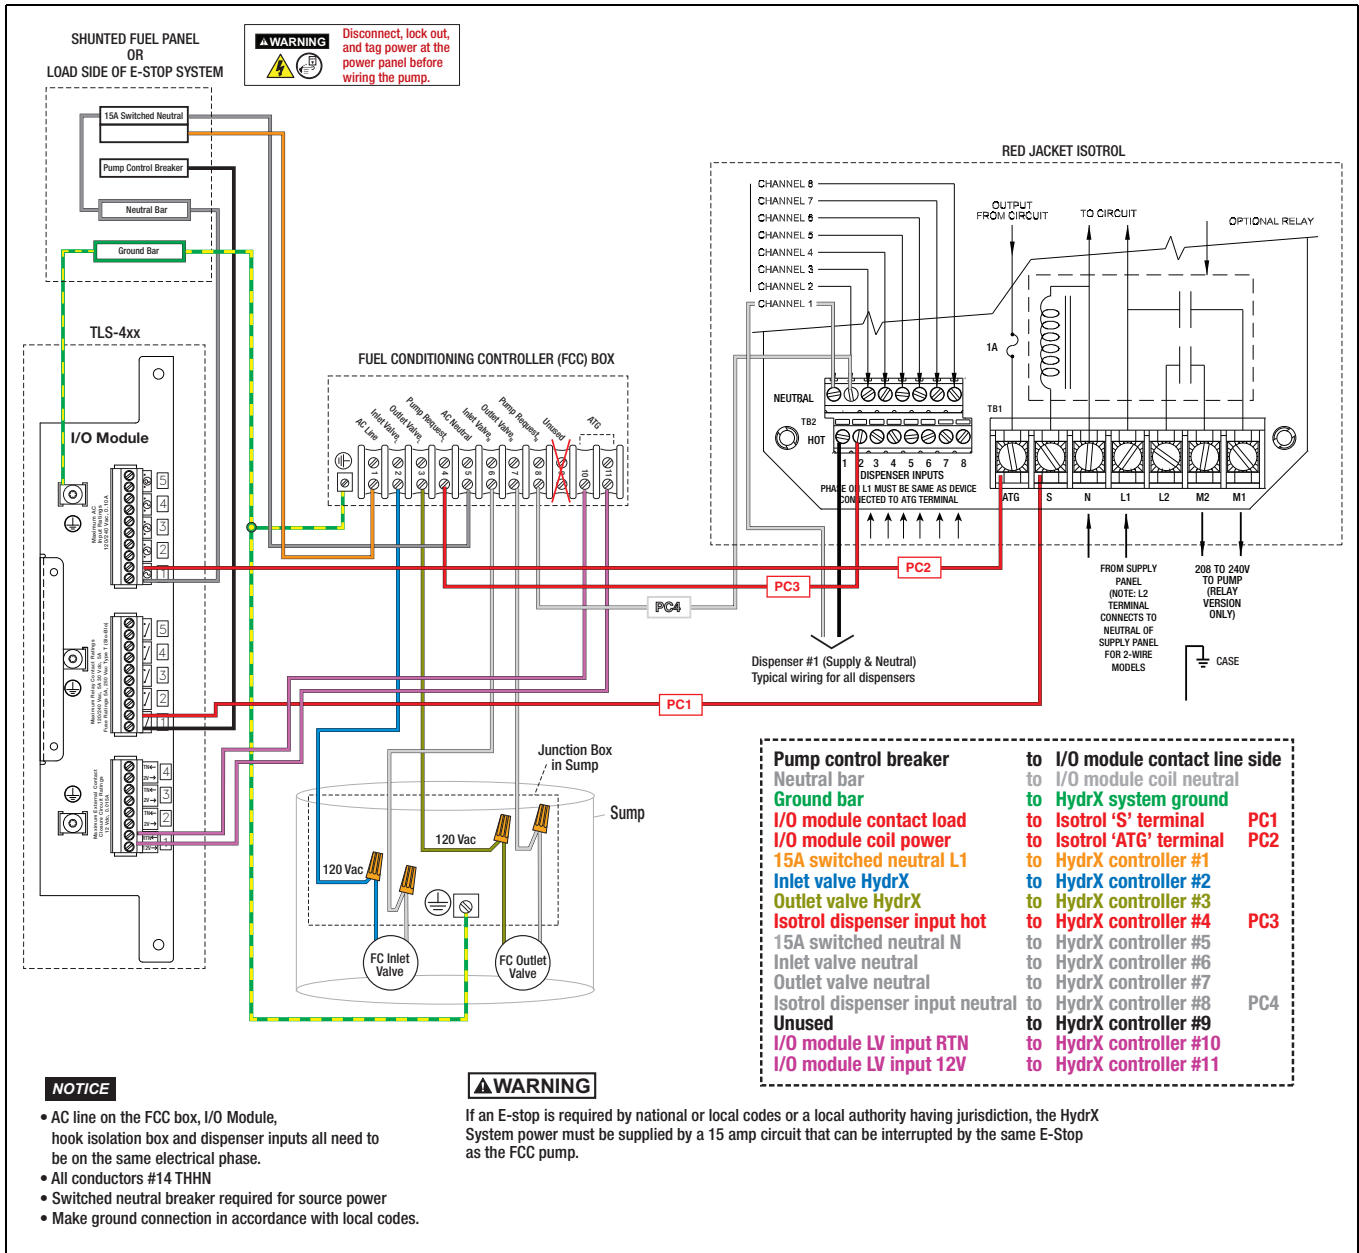
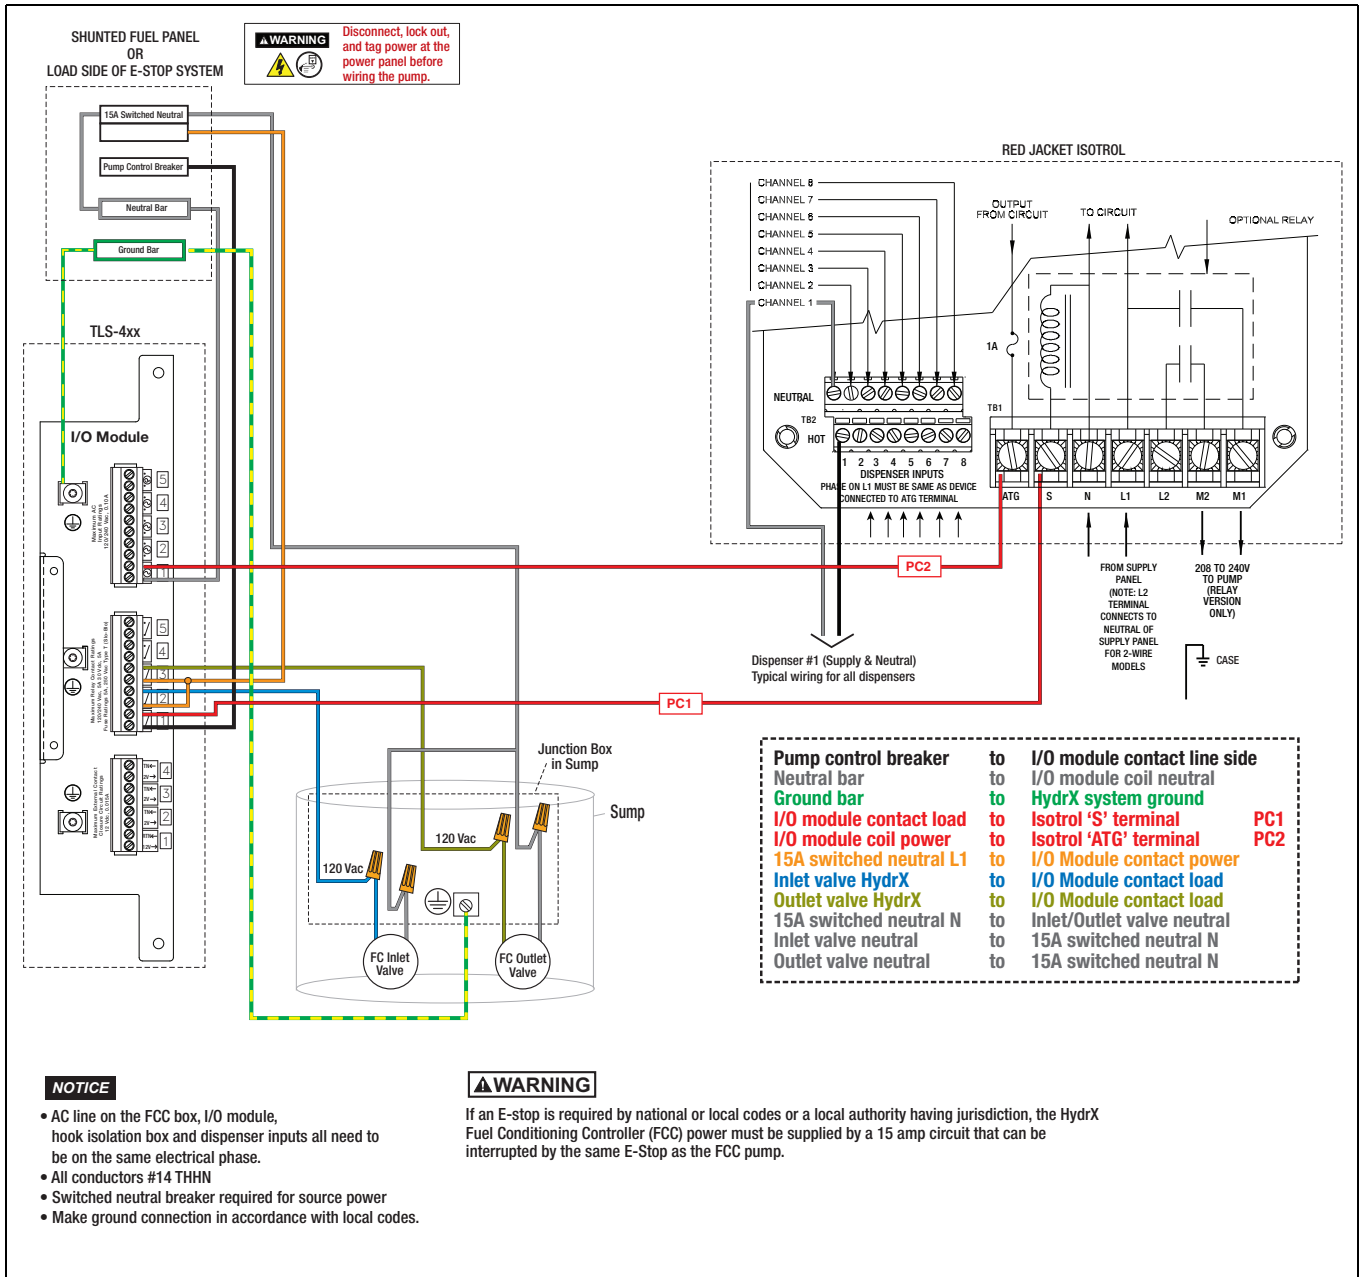

Figure 1. FCC Controlled HydrX System Wiring Diagram
Figure 2. Wiring Removed for ATG Control
1. Figure 1 is a wiring diagram of a typical HydrX system controlled by a FCC. Wires removed for ATG control are shown in Figure 2.